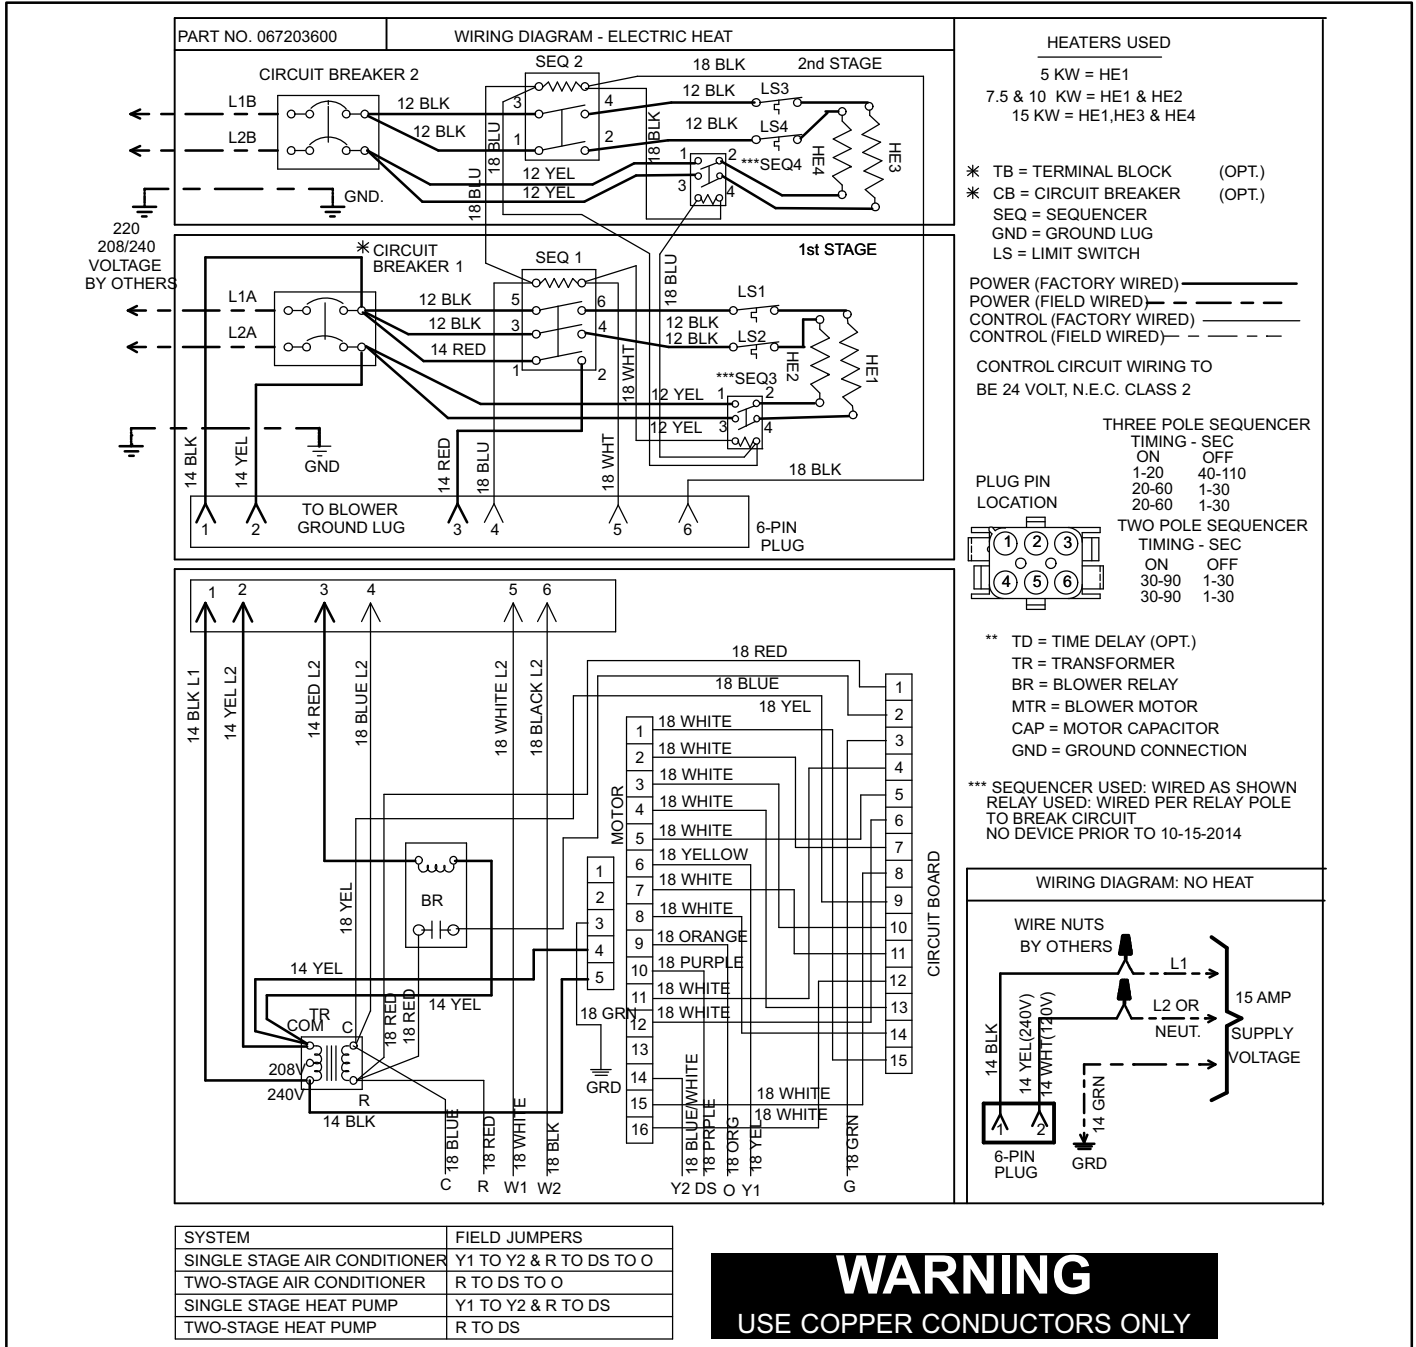

Figure 16. Typical Wiring Diagram — CBX25UHV Air Handler with Electric Heat
- Typical unit wiring (as well as wiring of optional field-installed electric heat) is given in figure 16. Refer to the instructions provided with the electric heat section for proper installation.